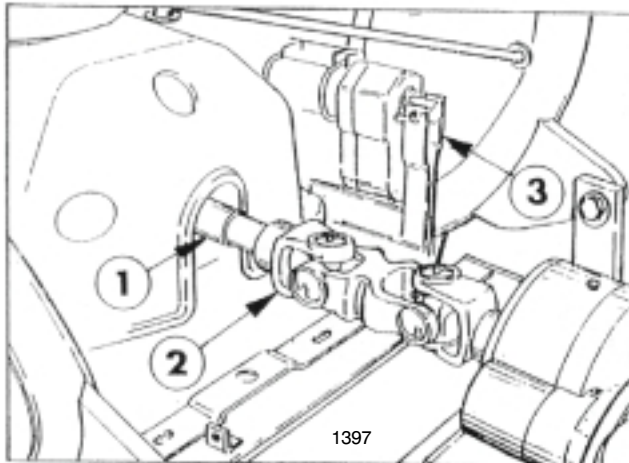

FIG. 1
NOTE: The optional Flow Control Kit (Model No. 41403) should be installed on the PA-17 Spreader BEFORE the Spreader is attached to the mounting frame. (FIG. 1) See the Set-Up and Parts Catalog furnished with the Flow Control Kit for the installation instructions.
4. Use lacquer thinner to remove the rust preventative coating from the Spreader's in-put shaft and keyway. Insert the 1/4" square key into the in-put shaft. See FIG. 1.